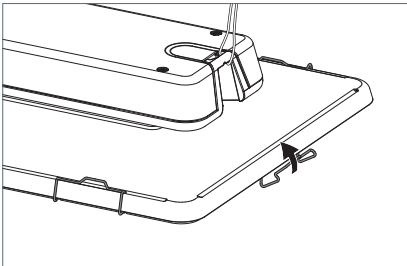

Fig. 13: Fastening the safety glass.
- ▶ Fasten the safety glass to the luminaire by folding all six holding clamps upwards, see Fig. 13.